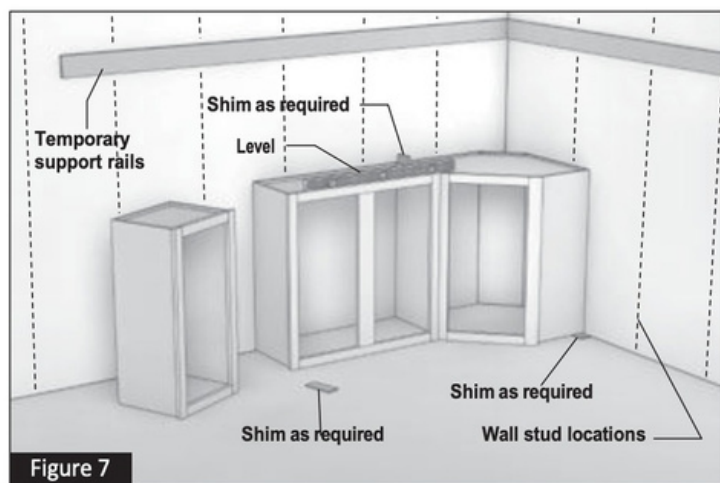

Figure 7
- 2.4** Using a level, make sure each cabinet is level and each face frame (front of the cabinet) is flush with the adjacent cabinet. A pry bar and shims can be used temporarily to get everything level and plumb. (Figure 7)